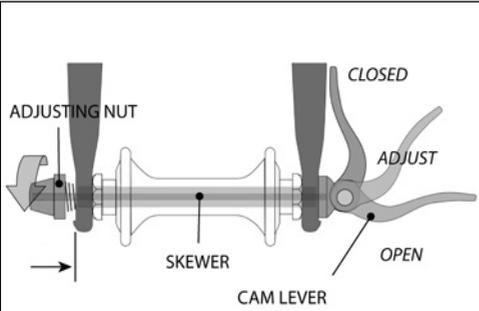
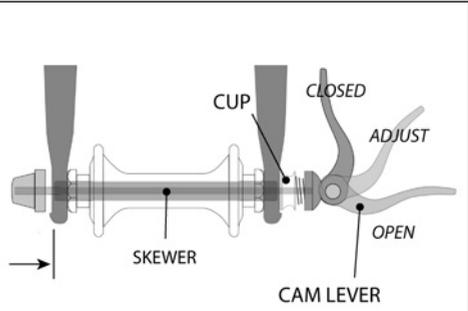
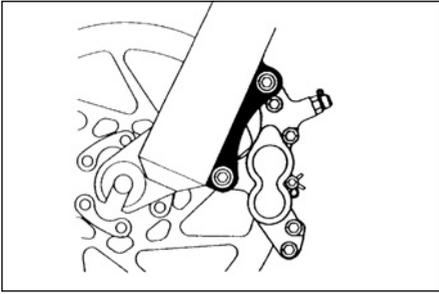
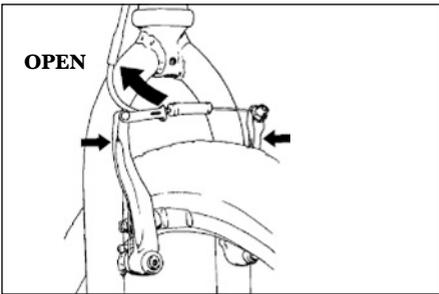

FIGURE 8a
FIGURE 8b
Figure 11.
Figure 12.
- A hollow axle with a shaft ("skewer") running through it which has an adjustable tension nut on one end and an over-center cam on the other (cam action system, fig:8a & 8b).
There are currently two types of over-center cam wheel retention mechanisms: the traditional over-center cam (fig. 8a) and the cam-and-cup system (fig. 8b). Both use an over-center cam action to clamp the bike's wheel in place. Your bicycle may have a cam-and-cup front wheel retention system and a traditional rear wheel cam action system.
a. Adjusting the traditional cam action mechanism (fig. 8a)
b. Adjusting the cam-and-cup mechanism (fig. 8b)
- (1) If your bike has rim brakes, disengage the brake's quick-release mechanism to increase the clearance between the tire and the brake pads (See Section 4.C fig. 11 through 15).
- (2) If your bike has cam action front wheel retention, move the cam lever from the locked or CLOSED position to the OPEN position (figs. 8a & b). If your bike has through bolt or bolt-on front wheel retention, loosen the fastener(s) a few turns counter-clockwise using an appropriate wrench, lock key or the integral lever.
- (3) If your front fork has a clip-on type secondary retention device, disengage it . If your front fork has an integral secondary retention device, and a traditional cam action system (fig. 8a) loosen the tension adjusting nut enough to allow removing the wheel from the dropouts. If your front wheel uses a cam-and-cup system, (fig. 8b) squeeze the cup and cam lever together while removing the wheel. No rotation of any part is necessary with the cam-and-cup system.
- (1) If your bike has cam action front wheel retention, move the cam lever so that it curves away from the wheel (fig. 8b). This is the OPEN position. If your bike has through bolt or bolt-on front wheel retention, go to the next step.
- (2) With the steering fork facing forward, insert the wheel between the fork blades so that the axle seats firmly at the top of the fork dropouts. The cam lever, if there is one, should be on rider's left side of the bicycle (fig. 8a & b). If your bike has a clip-on type secondary retention device, engage it.
- (3) If you have a traditional cam action mechanism: holding the cam lever in the ADJUST position with your right hand, tighten the tension adjusting nut with your left hand until it is finger tight against the fork dropout (fig. 8a). If you have a cam-and-cup system: the nut and cup (fig. 8b) will have snapped into the recessed area of the fork dropouts and no adjustment should be required.
- (4) While pushing the wheel firmly to the top of the slots in the fork dropouts, and at the same time centering the wheel rim in the fork:
- (a) With a cam action system, move the cam lever upwards and swing it into the CLOSED position (fig. 8a & b). The lever should now be parallel to the fork blade and curved toward the wheel. To apply enough clamping force, you should have to wrap your fingers around the fork blade for leverage, and the lever should leave a clear imprint in the palm of your hand.
- (2) If your bike has rim brakes, disengage the brake's quick-release mechanism to increase the clearance between the wheel rim and the brake pads (see Section 4.C, figs. 11 through 15).
- (3) On a derailleur gear system, pull the derailleur body back with your right hand.
- (4) With a cam action mechanism, move the quick-release lever to the OPEN position (fig. 8b). With a through bolt or bolt on mechanism, loosen the fastener(s) with an appropriate wrench, lock lever or integral lever; then push the wheel forward far enough to be able to remove the chain from the rear sprocket.
- (5) Lift the rear wheel off the ground a few inches and remove it from the rear dropouts.
Some bikes are equipped with a cam action seat post binder. The seat post cam action binder works exactly like the traditional wheel cam action fastener (Section 4.A.2) While a cam action binder looks like a long bolt with a lever on one end and a nut on the other, the binder uses an over-center cam action to firmly clamp the seat post (see fig. 8a).
3. Some bicycle brakes, such as disc brakes (fig. 11) and linear-pull brakes (fig. 12), are extremely powerful. Take extra care in becoming familiar with these brakes and exercise particular care when using them.
Most rim brakes have some form of quick-release mechanism to allow the brake pads to clear the tire when a wheel is removed or reinstalled. When the brake quick release is in the open position, the brakes are inoperative. Ask your dealer to make sure that you understand the way the brake quick release works on your bike (see figs. 12, 13, 14 & 15) and check each time to make sure both brakes work correctly before you get on the bike.